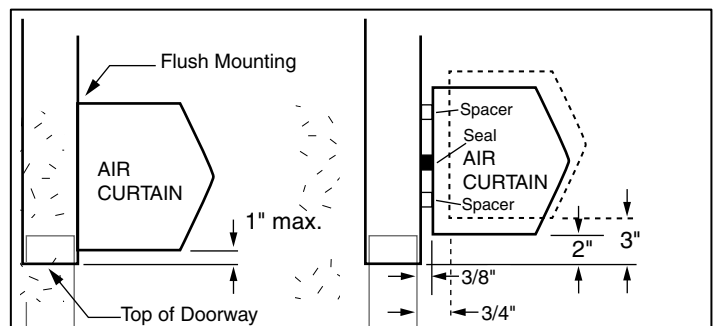

FIGURE 2 - Positioning of Air Curtain
- For optimum performance, the bottom of the unit (discharge nozzle) should be no more than 1" above the top of the door opening with the unit mounted flush to the wall. If the unit must be mounted higher, it must be **spaced out** from the wall **3/8" for every inch** the unit is above the door opening. Any void between the air curtain and the wall should be sealed along the full length of the unit. **See FIGURE 2.**